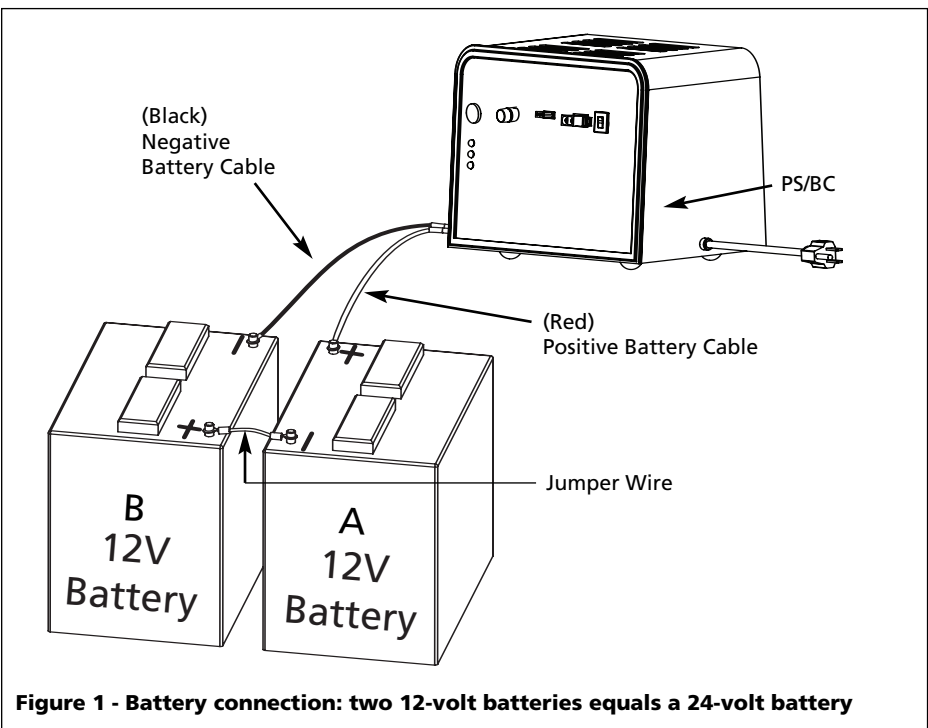

Figure 1 - Battery connection: two 12-volt batteries equals a 24-volt battery
- Connect jumper wire between batteries as shown on Figure 1.
- Connect power wires from PS/BC to battery terminals as shown in Figure 1. Connect the red wire to the unconnected positive terminal of battery A and then connect the black wire to the unconnected negative terminal of battery B. The yellow light should now be on.